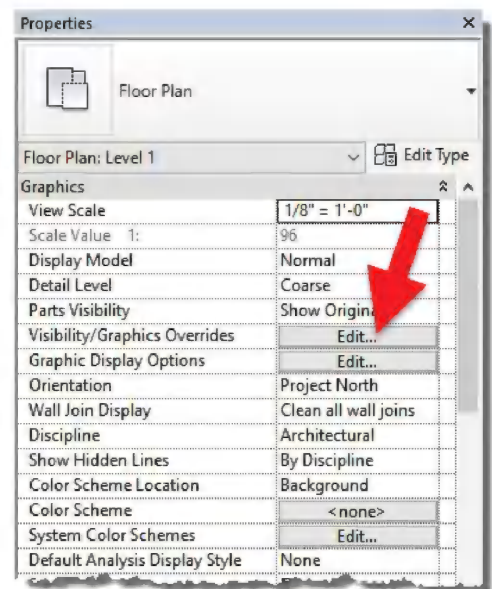

FIGURE 7-1.4 Level 1 view properties
19. Select **Edit**, next to the *Visibility/Graphic Overrides* parameter in the *Properties Palette* (Figure 7-1.4).